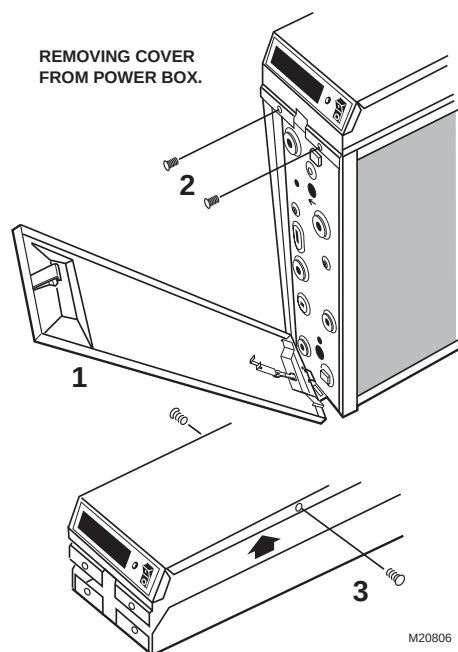

Fig. 10. Removing cover from power box.
2. Remove and retain the two screws from the front of the power box and the two screws from the sides of the power box. See Fig. 10.